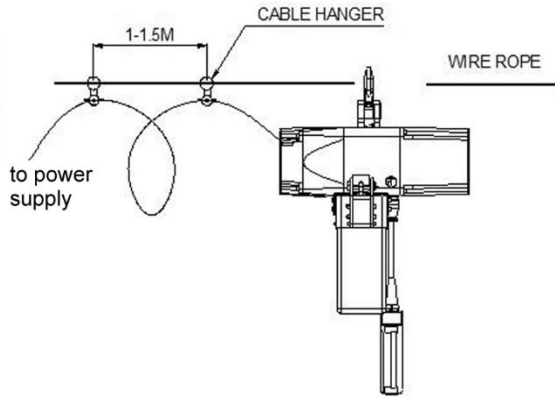

Figure 9-2
**IMPORTANT:** The power cable should be directed so that it is safely out of the way of loads. If a trolley is used, power cable must not interfere with, or be pinched by, trolley travel. See Figure 9-2 for a recommended solution.